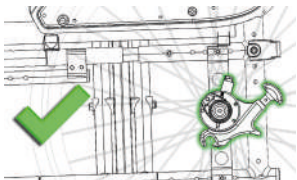
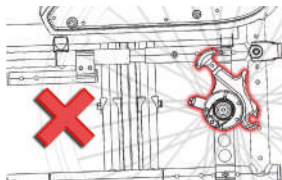

Figure 20
Figure 21
6. Check that the Kit is securely fixed to the pins/nuts of the wheelchair. The correct fixing position is illustrated in Figure 20. Figures 21 and 22 show examples of incorrect positioning.